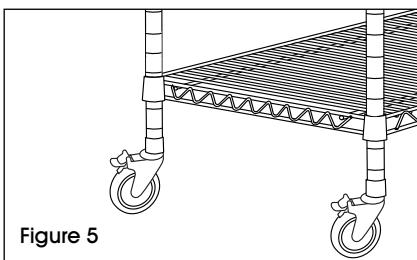

Figure 5
- Gently tap shelf down with rubber mallet to secure it. (See Figure 5)